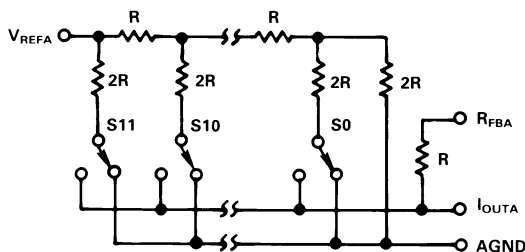
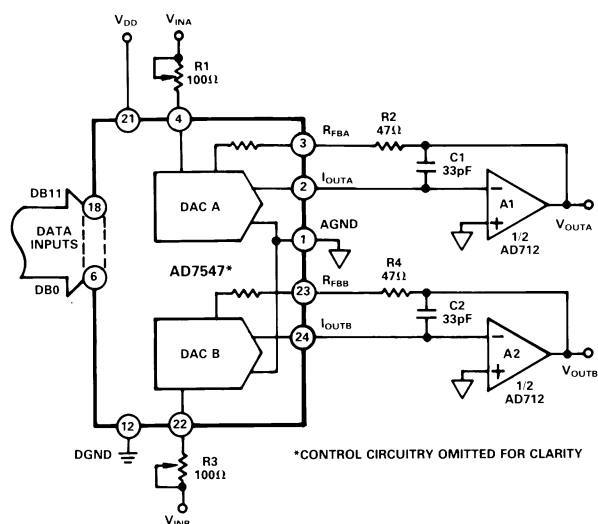
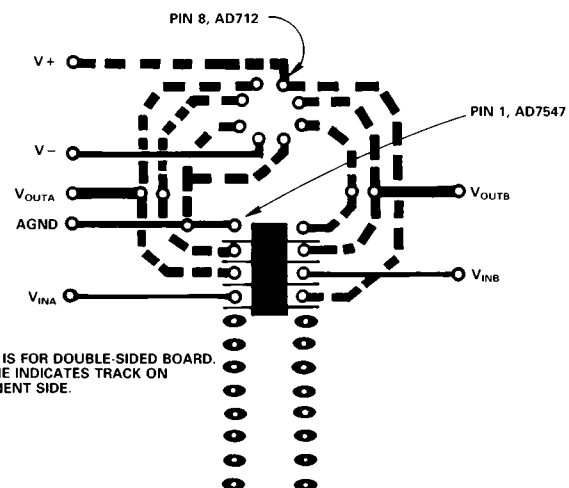

Figure 2. Simplified Circuit Diagram for DACA
Figure 4. AD7547 Unipolar Binary Operation
Figure 10. Suggested Layout for Circuit of Figure 4
The AD7547 contains two identical 12-bit multiplying D/A converters. Each DAC consists of a highly stable R-2R ladder and 12 N-channel current steering switches. Figure 2 shows a simplified D/A circuit for DAC A. In the R-2R ladder, binary weighted currents are steered between IOUTA and AGND. The current flowing in each ladder leg is constant, irrespective of switch state. The feedback resistor RFBA is used with an op-amp (see Figures 4 and 5) to convert the current flowing in IOUTA to a voltage output.
Figure 4 shows the circuit diagram for unipolar binary operation. With an ac input, the circuit performs 2-quadrant multiplication. The code table for Figure 4 is given in Table II.
Table II. Unipolar Binary Code Table for Circuit of Figure 4
**Output Offset:** CMOS D/A converters in circuits such as Figures 4 and 5 exhibit a code dependent output resistance which in turn can cause a code dependent error voltage at the output of the amplifier. The maximum amplitude of this error, which adds to the D/A converter nonlinearity, depends on  $V_{OS}$ , where  $V_{OS}$  is the amplifier input offset voltage. To maintain specified operation, it is recommended that  $V_{OS}$  be no greater than  $(25 \times 10^{-6})(V_{REF})$  over the temperature range of operation. Suitable op amps are the AD711C and its dual version, the AD712C. These op amps have a wide bandwidth and high slew rate and are recommended for wide bandwidth ac applications. AD711/AD712 settling time to 0.01% is typically  $1\mu s$ .
**Temperature Coefficients:** The gain temperature coefficient of the AD7547 has a maximum value of  $5\text{ppm}/^\circ\text{C}$  and typical value of  $1\text{ppm}/^\circ\text{C}$ . This corresponds to worst case gain shifts of 2LSBs and 0.4LSBs respectively over a  $100^\circ\text{C}$  temperature range. When trim resistors R1(R3) and R2(R4) are used to adjust full-scale range as in Figure 4, the temperature coefficient of R1(R3) and R2(R4) should also be taken into account. For further information see "Gain Error and Gain Temperature Coefficient of CMOS Multiplying DACs", Application Note, Publication Number E630c-5-3/86 available from Analog Devices.
**High Frequency Considerations:** AD7547 output capacitance works in conjunction with the amplifier feedback resistance to add a pole to the open loop response. This can cause ringing or oscillation. Stability can be restored by adding a phase compensation capacitor in parallel with the feedback resistor. This is shown as C1 and C2 in Figures 4 and 5.
**Feedthrough:** The dynamic performance of the AD7547 depends upon the gain and phase stability of the output amplifier, together with the optimum choice of PC board layout and decoupling components. A suggested printed circuit layout for Figure 4 is shown in Figure 10 which minimizes feedthrough from  $V_{REFA}$ ,  $V_{REFB}$  to the output in multiplying applications.